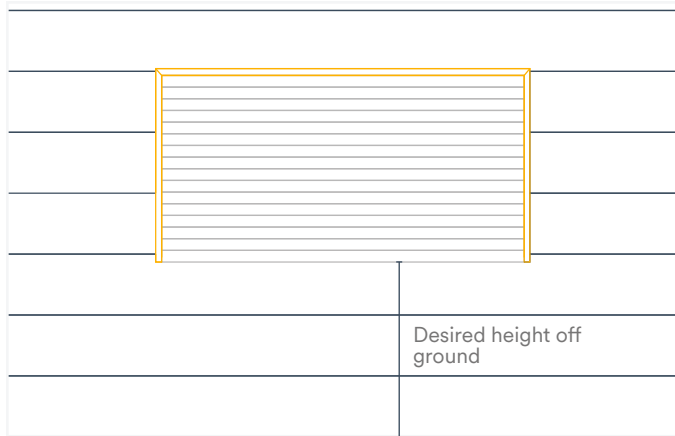
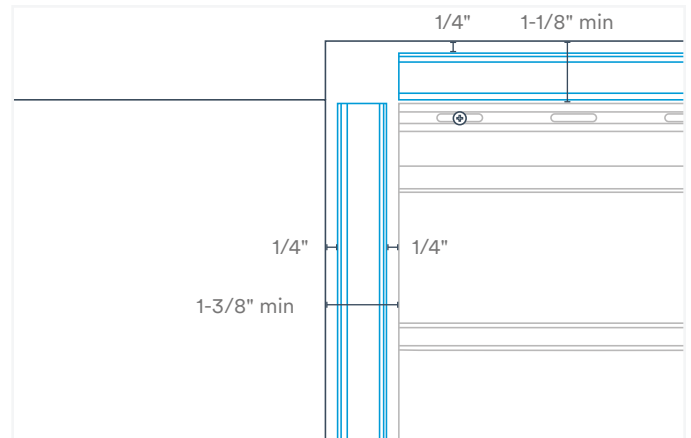

Fig. 23
Fig. 24
1. Refer to the image below for the recommended installation layout (Fig. 23) and appropriate spacing measurements (Fig. 24). It is critical to leave adequate spacing between Wall&CeilingBoard panels and the SlatWall panel area for the H Channel Snap-In Trim which will serve as the transition trim between the two products. Suggested spacing is the same for both horizontal and vertical Trusscore Wall&CeilingBoard installation orientations.